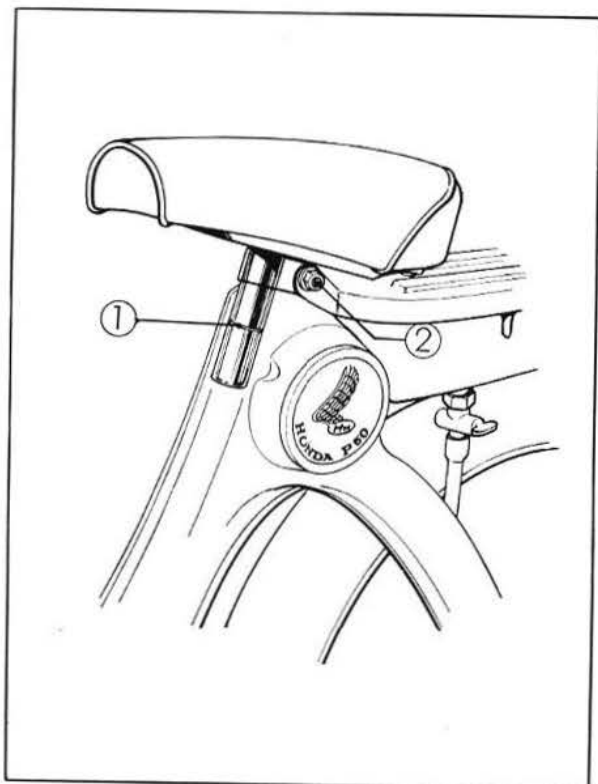

Fig. 1-35 ① Mark ② 8×42 bolt
- ① Loosen the 8×42 bolt.
- ② Adjust the saddle to a suitable height with the mark located within the frame, and fix the saddle in place with the 8×42 bolt. (Fig. 1-35)